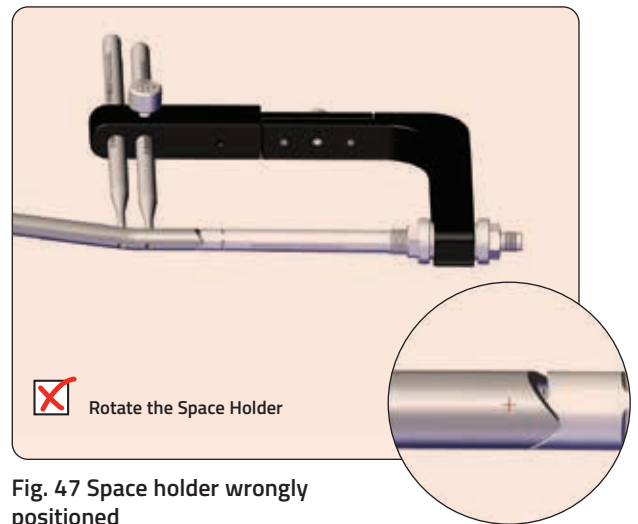

Fig. 47 Space holder wrongly positioned
1) The marking "THIS SIDE UP" on the Space Holder is not facing upwards and the connection between drill guide assembly and FITBONE is loose. (Fig. 47)